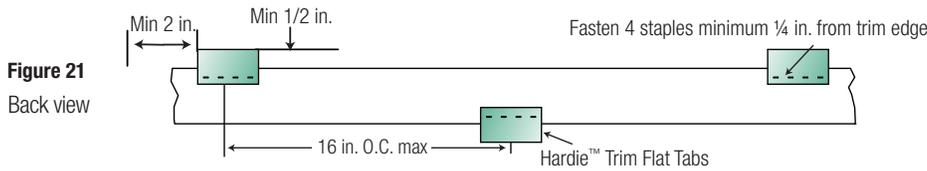

Figure 21
Step 1: Attach Hardie™ Trim Flat Tabs to the back side of the trim using four, 18 ga. 1/2 in. L x 1/4 in. W narrow crown corrosion resistant staples, equally spaced in one row, positioned no closer than 1/2 in. from trim edges using a pneumatic staple gun (Figures 21, 22).
Terminate ends of the Band Board into Trim or Siding or miter cut the edges of the trim at the corners of the building. Place a Hardie™ Trim Flat Tab at the end of each trim and one tab every stud at a maximum of 16 in. O.C. The Hardie™ Trim Flat Tabs should be attached to the trim in an alternating pattern to the top and bottom of the band board (Figures 21, 22). Use 16 ga. galvanized 2 in. long finish nails to ensure proper fastening if needed.